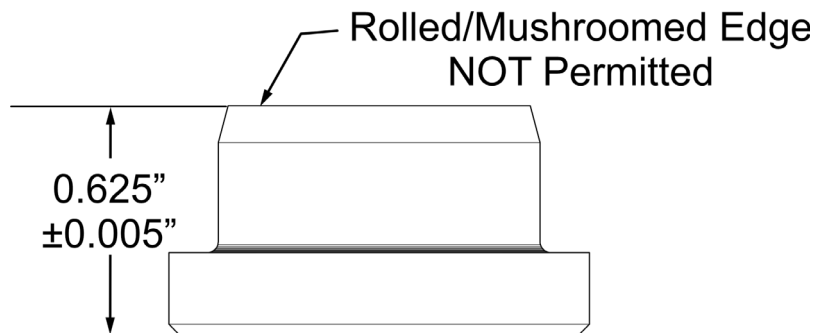

Figure 3. Alternator Shaft Seal Collar
9. Inspect the seal collar for wear (Figure 3). If the chamfered edge exhibits wear, displaced or missing material, replace the alternator. If the seal collar meets dimensional inspection requirements, press the seal collar (chamfered end first) on the rotor shaft according to the instructions in X30531, Alternator Service Support Manual.